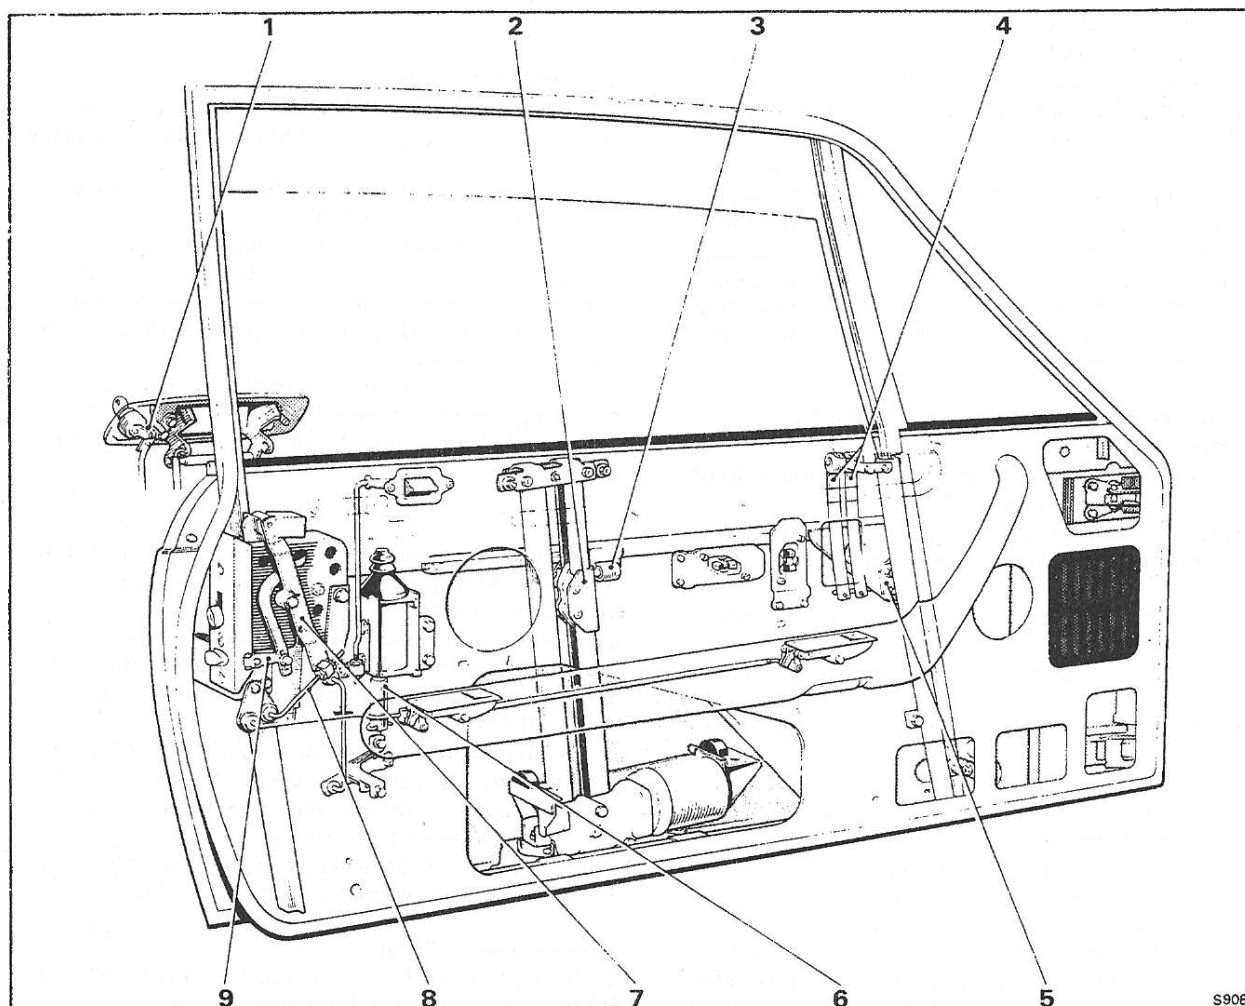

Fig. S11 Construction of a door (Camargue)
**Camargue (see Fig. S11)**
3. Remove the link rod connecting the door lock balance lever to the lower cross-shaft lever. Disconnect both the lower end of the rod and the swivel link pin end out of the nylon bushes (see Fig. S11, item 8).
5. Remove the nut and washer securing the upper cross-shaft lever (see Fig. S11, item 9) to the angled lever on the door lock; disconnect the levers.